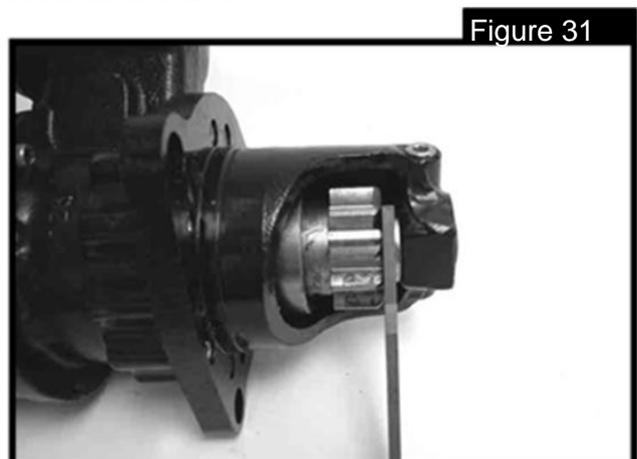

Figure 31
9.2 Turn the switch on, and measure the gap between the pinion face and the thrust washer. Proper gap is .187"(3/16"). See figure 31. To perform these procedures